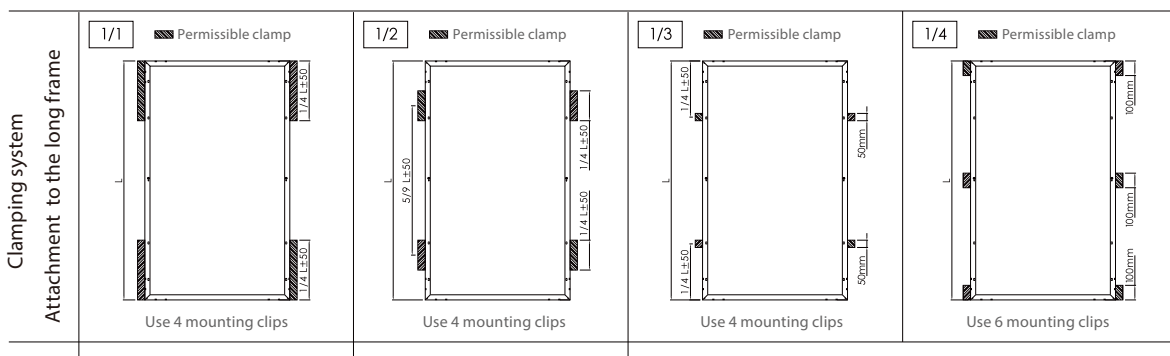

Figure 2
- Select a suitable installation method depending on the load requirements. More detailed information is shown in Figure 2.